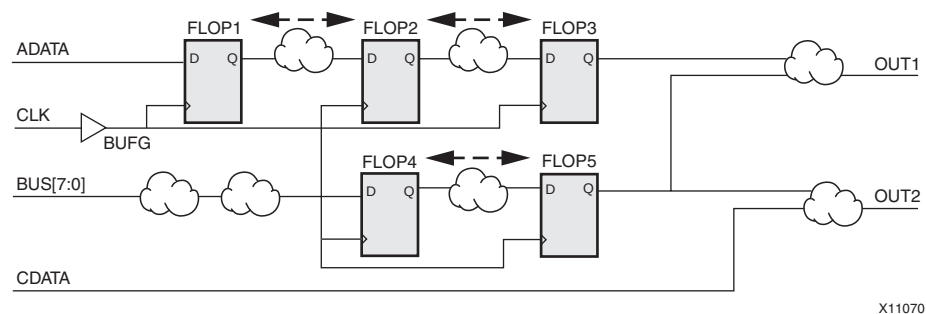

Figure 3-10: PERIOD Constraints Covering Register to Register Paths
- The timing between synchronous elements (FFS, RAMS, LATCHES, HSIOs, CPUs, DSPS, and PADS) clocked by a specific clock net that is terminated at a registered clock pin, as shown in Figure 3-10, “PERIOD Constraints Covering Register to Register Paths.”